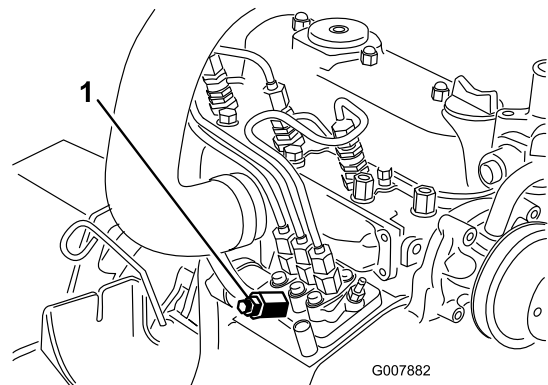

Figure 47
3. Place a rag under the air bleed screw on the fuel injection pump and open it (Figure 47).